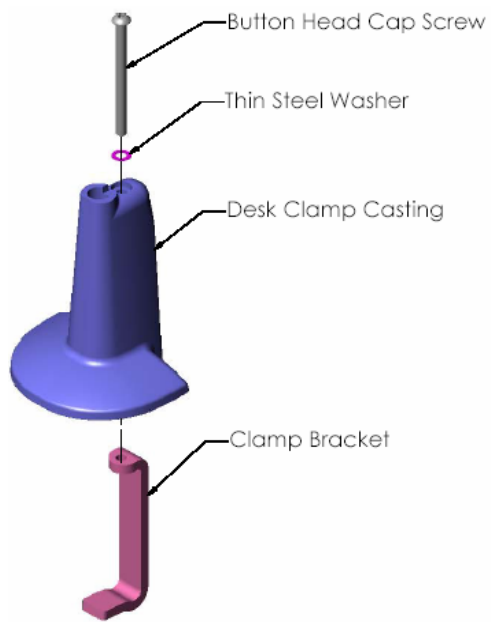

Figure 2
2. Assemble base (see Figure 2).